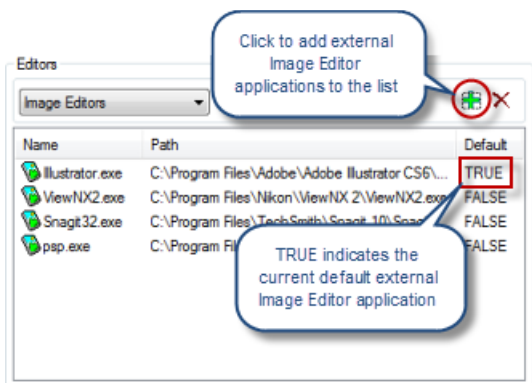

FIG. 40 Preferences dialog - Editor Selection tab
4. Click **OK** in the *Choose Editor* dialog to add the selected program to the Editors list (FIG. 40)